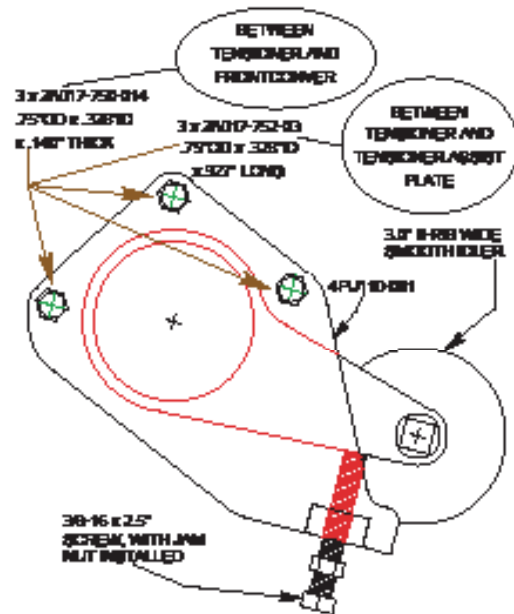

Fig. 6.1-C2 (optional)
- F. Remove the two bolts that retain the factory idlers to the front cover. Discard the idlers and bolts. Replace the top idler with the 3.5" smooth idler (4FU016-021) .875"OD x .663"ID x .101" spacer and stud bolt provided. Replace the lower idler with the 3.5" ribbed idler (4FU016-041) .875"OD x .663"ID x .101" spacer and stud bolt provided. (See Fig. 6.1-c.)